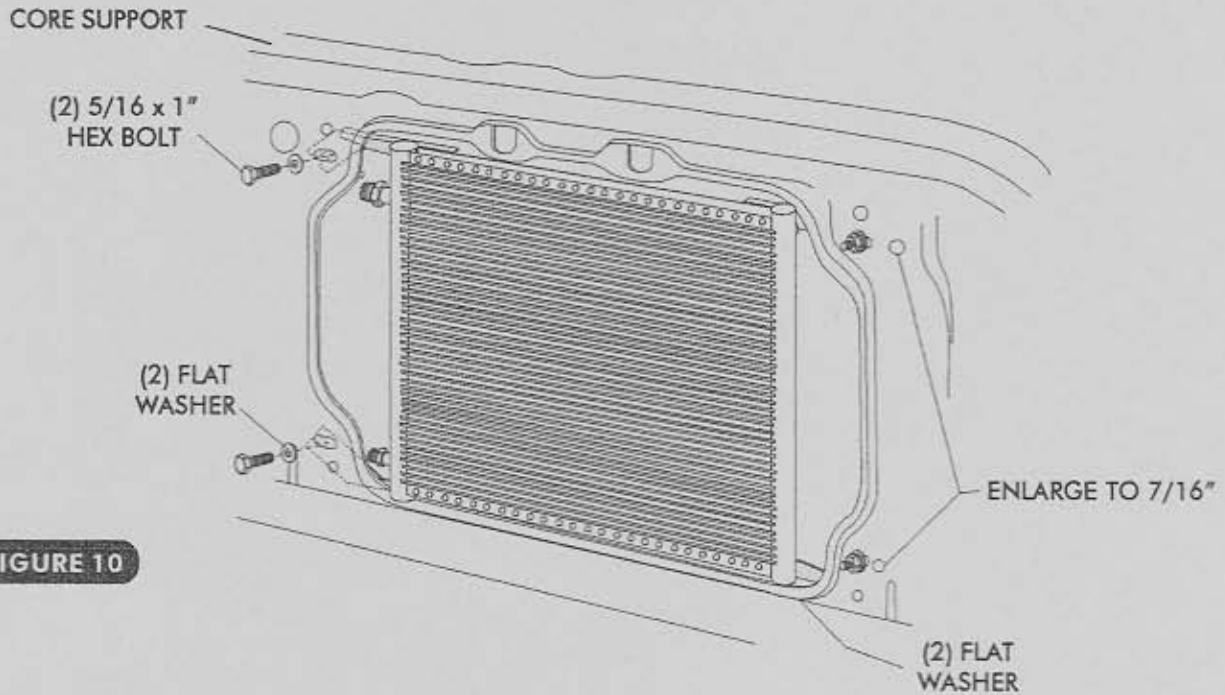

FIGURE 10
- USE A 7/16" DRILL BIT TO ENLARGE THE TWO DRIVER SIDE OEM RADIATOR MOUNTING HOLES. SEE FIGURE 10, PAGE 12.
- TEMPORARILY ATTACH THE PASSENGER SIDE OF THE CONDENSER TO THE CORE SUPPORT USING (2) 5/16 x 1" HEX BOLTS WITH FLAT WASHERS AND (2) 5/16 HEX NUTS. SEE FIGURE 10, PAGE 12.